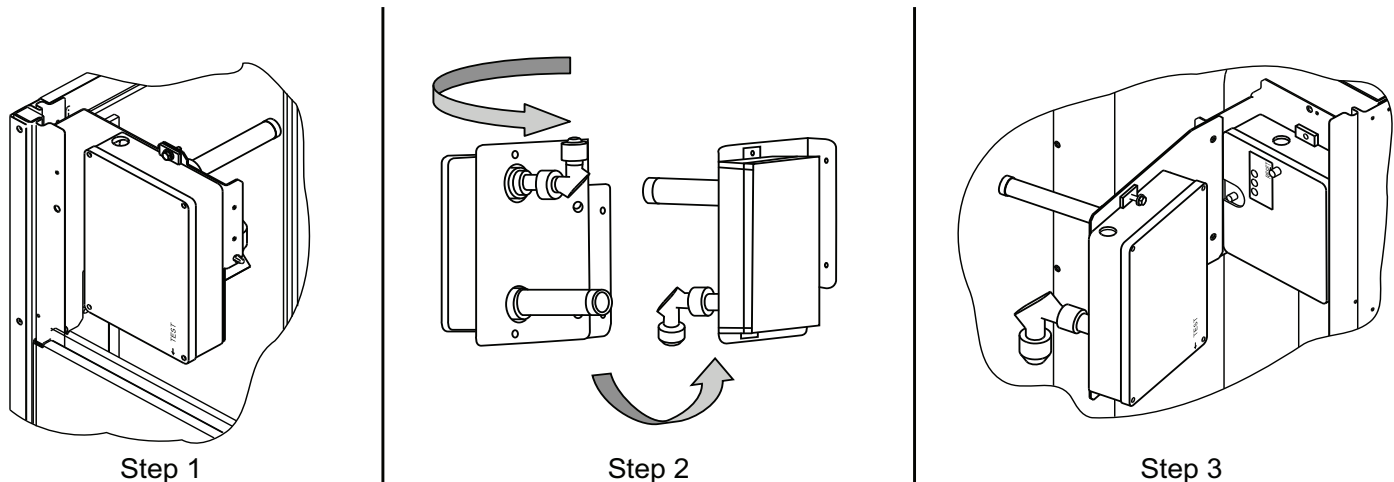

Fig. 69 — Completing Installation of Return Air Smoke Sensor
1. Unscrew the two screws holding the return air smoke detector assembly. See Fig. 69, Step 1. Save the screws.
2. Turn the assembly 90 degrees and then rotate end to end. Make sure that the elbow fitting is pointing down. See Fig. 69, Step 2.
3. Screw the sensor and detector plate into its operating position using screws from Step 1. See Fig. 69, Step 3.